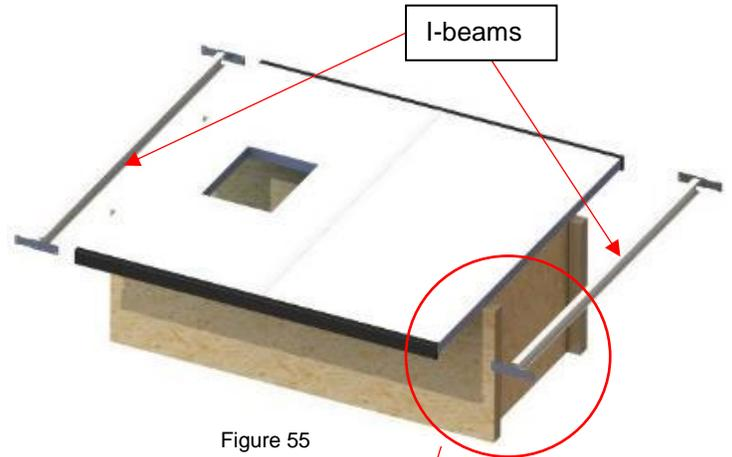
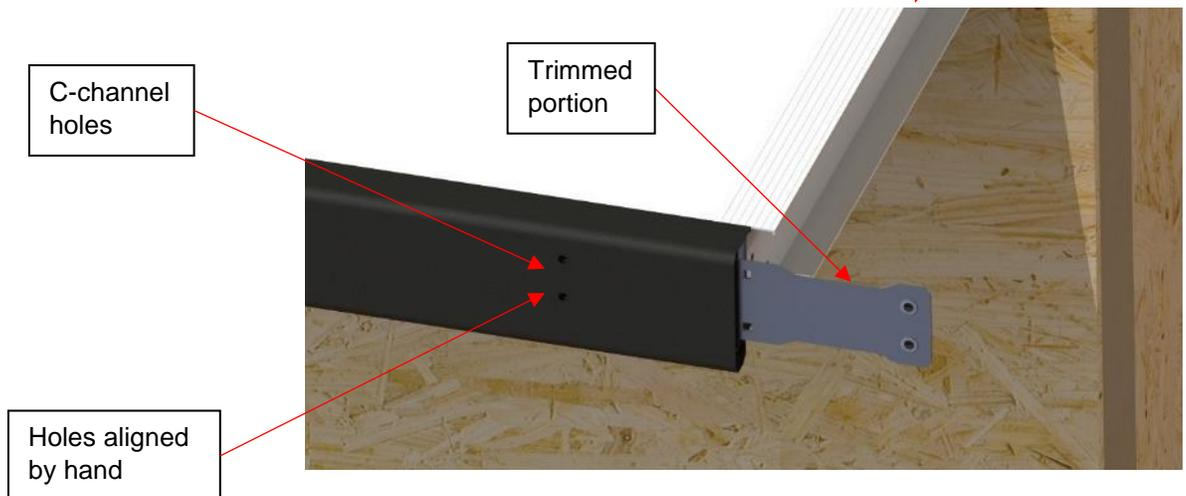

Figure 55
Figure 56
11) Install the I-Beams with the long I to C connection plates. Ensure the trimmed portion of the I to C connection plate faces toward the end of the cover (Figure 55 and Figure 56).
12) Align by hand the C-channels (left and right sides) in such a matter that the I to C connection plate holes are visible (Figure 56).
- ◆ Do not over tighten the straps. Over tightening might permanently damage the sealing components of the I-Beams and allow for water infiltration. Tighten slowly and stop as soon as holes align (figure 56).